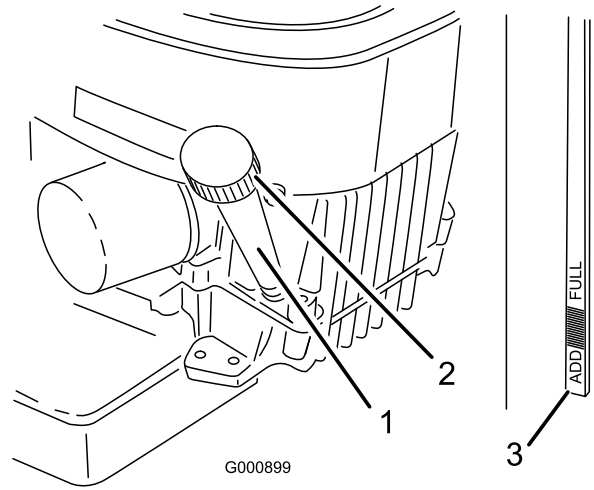

Figure 25
3. Clean around the oil dipstick (Figure 25) so that dirt cannot fall into the fill hole and damage the engine.
4. Unscrew the oil dipstick and wipe the metal end clean (Figure 25).